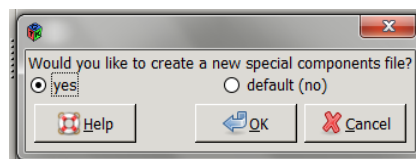

Figure 5
**Step 5:** A second pop-up window will then appear asking if you wish to create a special component file, click *>yes* (figure 5)